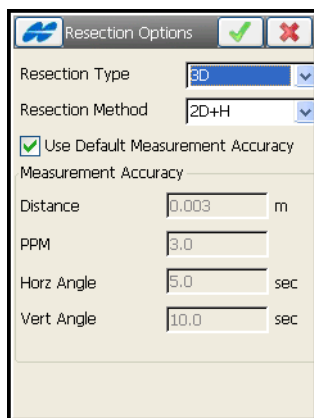

Figure 8-42. Resection Options
6. In the **Resection Options** screen (Figure 8-42), choose whether: